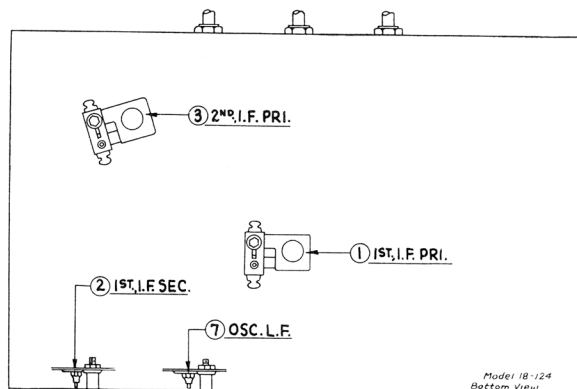

Fig. 2
1. Remove the grid clip from the cap of the 6A7 tube and attach the shielded antenna lead from the broadcast signal generator to the grid cap of the 6A7. Set the switch of the signal generator at 260 K.C. (the I.F. of Model 18) and the dial of the set at 55. Turn on the set and signal generator. Adjust each of the three I.F. compensating condensers in turn to give maximum reading in the output meter (connected as explained on page 2). If the needle on the meter goes off scale, turn down the attenuator adjustment of the signal generator. See Fig. 2 for locations of the I.F. compensating condensers. The first and 2d I.F. primary condensers ① and ③ are accessible through the two holes in the chassis sub-base directly over them. The 1st I.F. secondary ② is accessible from the rear.
3. This adjustment ⑦ is made from rear of chassis (see Fig. 2). Set Signal Generator at 600 and dial of set at 60. The tuning condenser assembly should be "rocked" while this adjustment is being made.